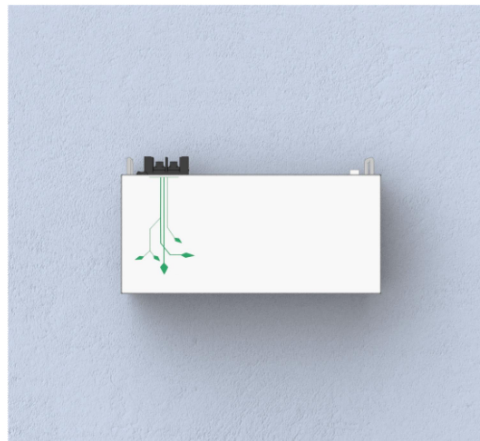

Figure 3-5
5. When UE-24LI2900I battery wall hanging installing, pay attention to insert the two screw heads on the back of the chassis into the slot on the wall hanging. As shown in figure 3-5 after the installation is completed.